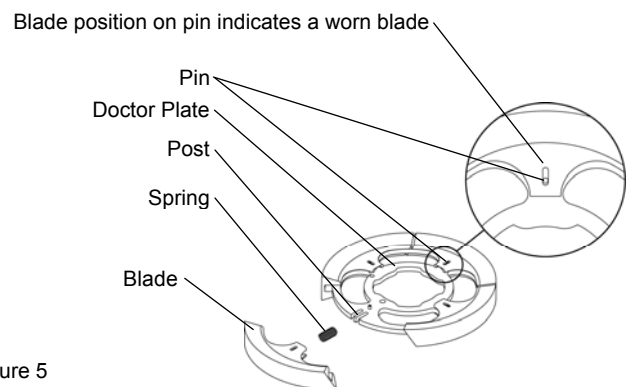

Figure 5
- 6) Inspect the lid O-ring (item 1) and clean the O-ring groove of any debris.
- 7) Remove the element compression assembly (item 2) and upper element O-ring (item 3). Inspect O-ring for damage.
- 8) Blade removal instructions (item 7):
- a. Inspect blades while in unit. Blade wear is indicated by pin location. See Figure 5. The cleaning blades should be replaced
- b. Removing retaining pin (item 5) from carrier.
- d. Remove cleaning assembly (item 6).
- e. Inspect blades (see Figure 5). If blades are in good condition, skip to step 10.
- 9) Install new cleaning blades and springs (item 7).